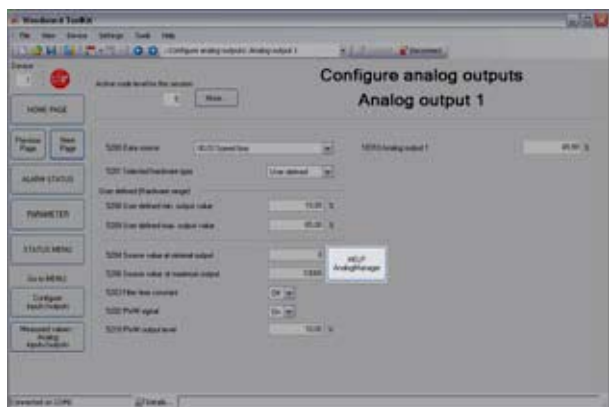

Fig. 217: Setup of external AOs
1. Configure the external analog outputs using the Toolkit screen shown in (Fig. 217).